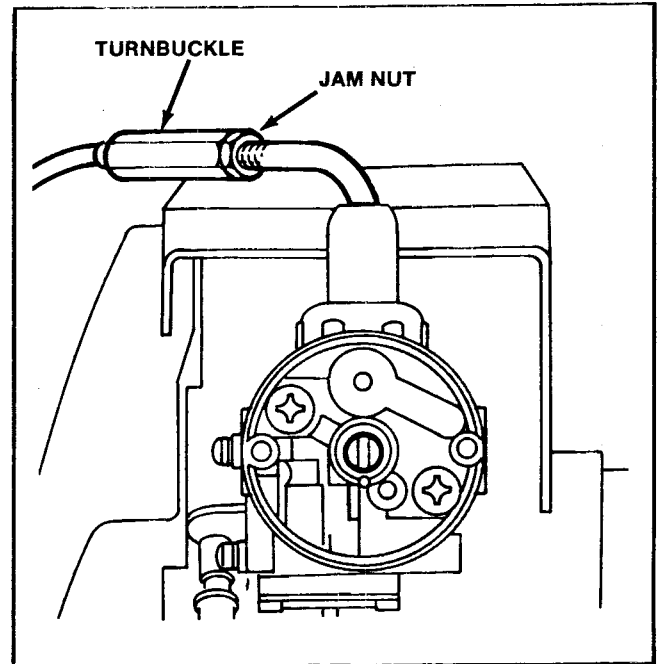

Figure 35
1. Remove two (2) screws securing the air cleaner cover to the trimmer and remove the air cleaner as an assembly.
3. To adjust, loosen the jam nut on the throttle cable and rotate the turnbuckle to increase or decrease the travel of the throttle valve. See Fig. 35.